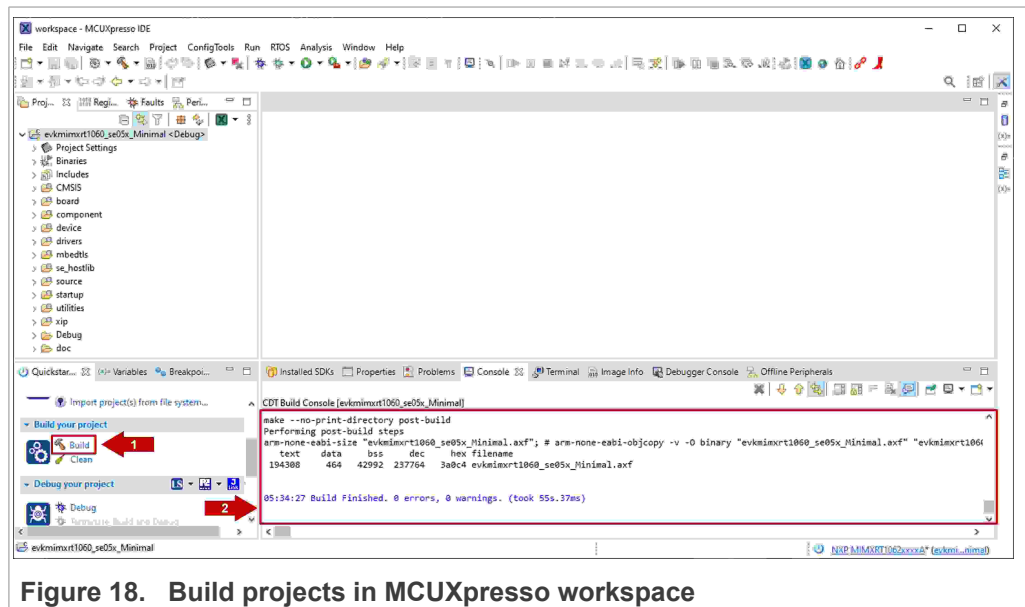

Figure 18. Build projects in MCUXpresso workspace
4. Go to the MCUXpresso Quickstart Panel and click on the *Build* button as shown in Figure 18. Wait a few seconds and check that the build process has finished successfully in the MCUXpresso console window.